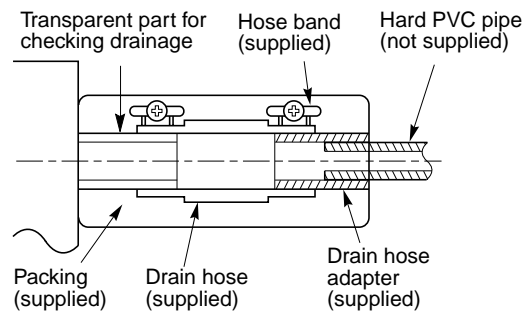

Fig. 3-79
- (1) Prepare a standard hard PVC pipe for the drain and use the supplied hose band to prevent water leaks. The PVC pipe must be purchased separately. When doing this, leave a gap between the drain socket of the unit and the PVC pipe to allow the drainage to be checked. The transparent drain pipe allows you to check drainage. (Fig. 3-79)
Tighten the hose clamps so their locking nuts face upward. (Fig. 3-79)